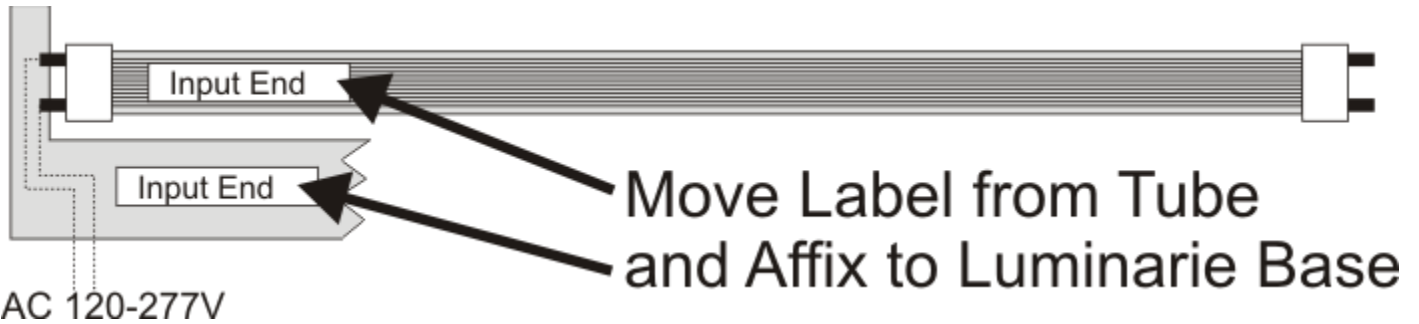

Figure 4 How to Affix Label from Tube to Luminaire Base
(3).Lamp Replacement Marking Label, See Fig 4